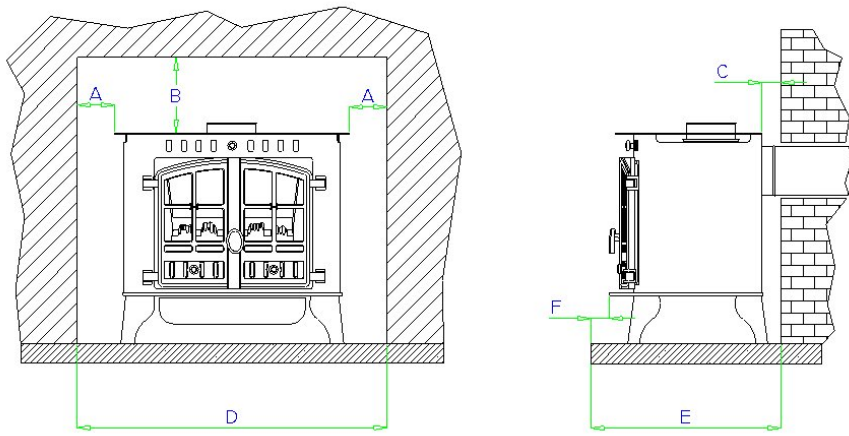

Figure 1: Clearance Distances
- 8. Opening Clearances: for the relevant clearance distances for installing the appliance in an opening see figure 1 and table 1.